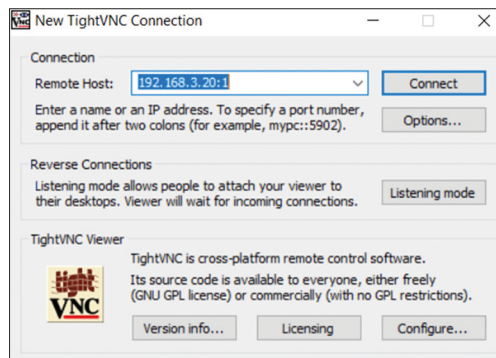

Figure 1.13: Connect to TightVNC Viewer.
- Start the **TightVNC Viewer** on your PC and enter the Raspberry Pi IP address followed by :1. Click **Connect** to connect to your Raspberry Pi (Figure 1.13).